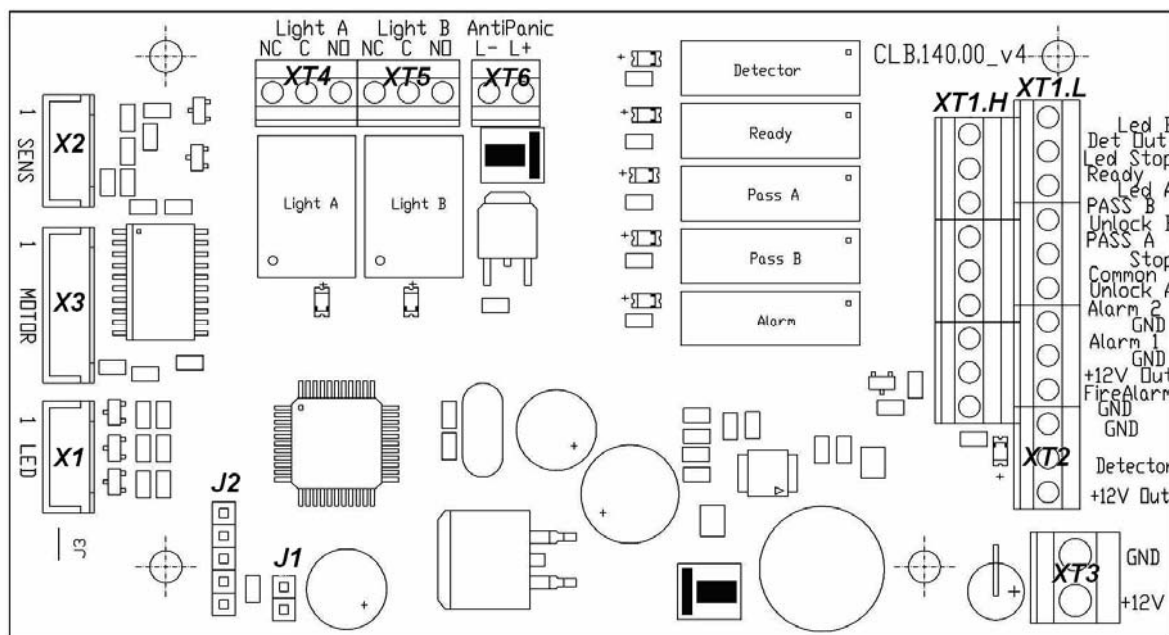
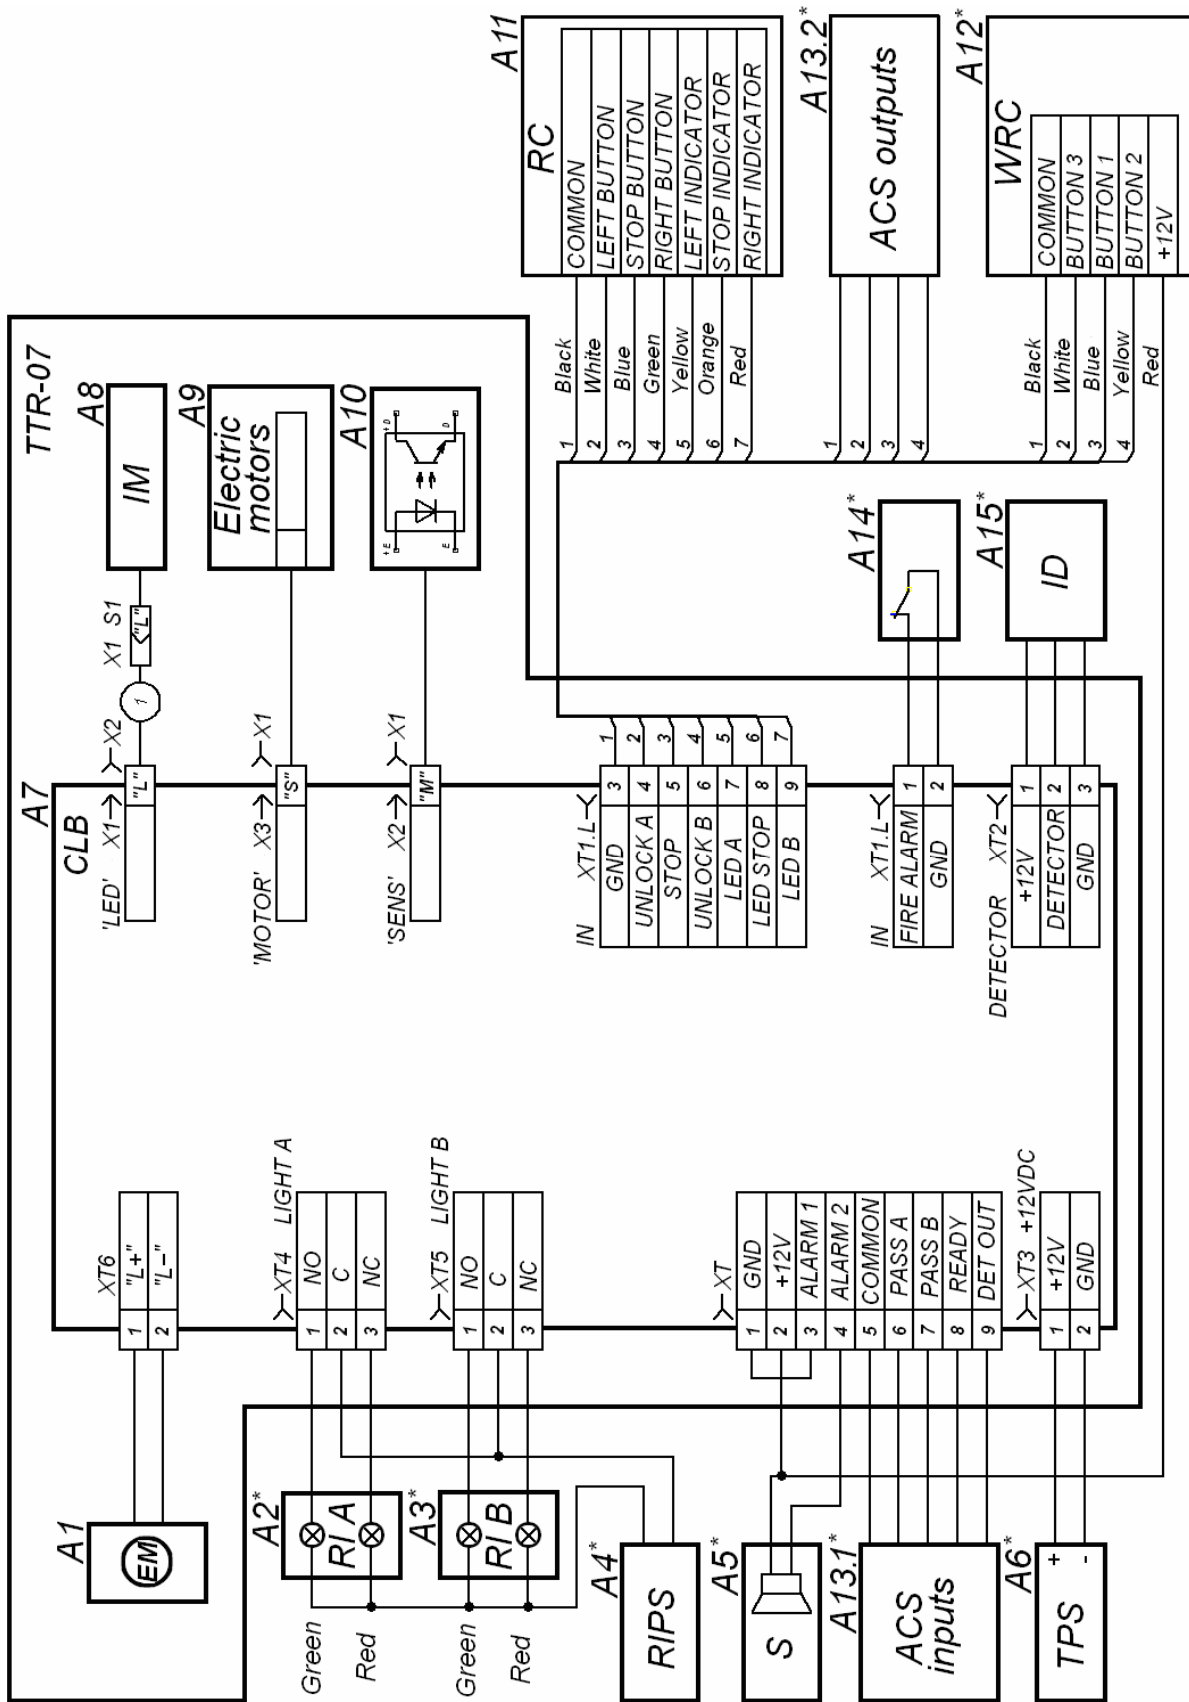
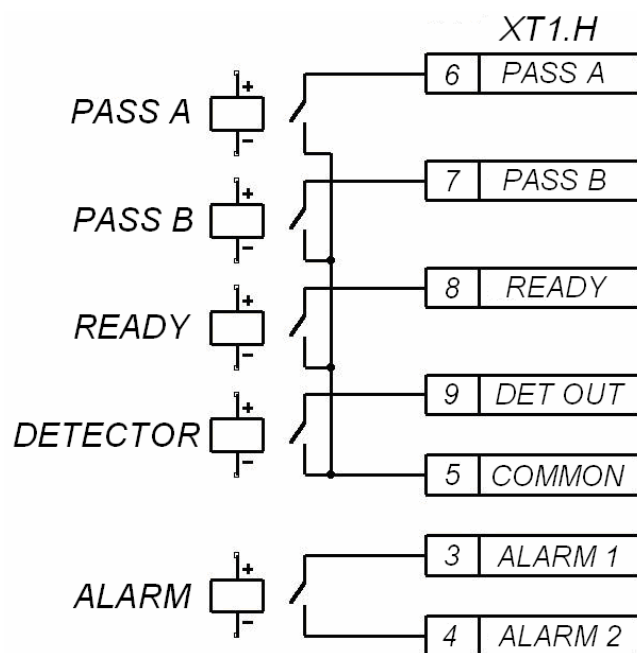

Fig. 2 Control Logic Board (CLB)
Fig. 3 Connection layout
Fig. 6 Output cascades for PASS A, PASS B, Ready, Det Out and Alarm
5.2.3 The RC panel/wireless remote control/ACS controller (11), emergency unblocking device, LED indication display, control mechanism and the turnstile power supply unit (7) are connected to the CLB with the cables in accordance with the connection layout (see Fig.3).
5.2.4 The RC panel is designed as a small desktop device with a shockproof ABS plastic case and is intended for setting and indicating operating modes when the turnstile is operated manually. The RC panel is connected to the CLB with a multicore cable (12) via the “XT1.L” connector block (See Fig. 2 and Fig. 3).
If the turnstile orientation relatively to the operator’s terminal is not standard (e.g. the terminal is placed at the backside of the turnstile housing), the RC panel orientation towards the turnstile can be changed by exchanging places of the RC wires to the contacts “Unlock A” and “Unlock B” as well as contacts “Led A” and “Led B” accordingly (see Fig. 2 and Fig. 3).
5.2.5 The CLB (Fig. 2) includes:
- XT1.L (In) connector block to connect the RC panel /the wireless remote control/ACS controller inputs (11) as well as an emergency unblocking device (9);
5.3.2 Connection of the devices stated in Clause 5.3.1 is made with the cable (5) to the corresponding connector blocks *XT1.L* и *XT1.H* of the CLB in accordance with the connection layout (Fig. 2 and Fig. 3).
5.3.7 Pin assignments of the CLB connector blocks are given in Fig. 2 and on a label located on the inner surface of turnstile cover (2) with LED indication display (same as Fig. 2).
5.4.3 The relays *PASS A* (contacts *PASS A* and *Common*), *PASS B* (contacts *PASS B* and *Common*), *Ready* (contacts *Ready* and *Common*), *Detector* (contacts *Det Out* and *Common*) and *Alarm* (contacts *Alarm 1* and *Alarm 2*) have normally open contacts. The “*Common*” contact, at that, is not connected to the CLB power supply negative terminal. In the initial (inactive) state, when the power is on, the relay contacts “*PASS A*”, “*PASS B*”, “*Ready*” and “*Detector*” are closed (voltage is supplied to the relay coil) and the “*Alarm*” relay contacts are broken (voltage is not supplied to the relay coil). The CLB relay operation/release is indicated by lighting up/going down of the red test indicators located near the corresponding relays (Fig. 2). The output cascades for *PASS A*, *PASS B*, *Ready*, *Det Out* and *Alarm* are the contacts with the following signal characteristics (Fig 6):
5.5.2 The control mode is set by the jumper on the J1 connector (the J1 connector location is shown on Fig. 2 and on a label located on the inner surface of turnstile cover (2)): the jumper is fixed — the pulse control mode, the jumper is not fixed — the potential control mode. The jumper is fixed at the factory before the delivery.
- emergency unblocking device (9);
5.9.2 The intrusion detector is connected to the “XT2” connector block, and the siren is connected to the “XT1.H” connector block of the CLB according to the connection layout (Fig. 2 and Fig. 3). There should be normally closed contacts on the intrusion detector.
5.9.4 The emergency unblocking device is connected to the “XT1.L” connector block of the CLB in accordance with the connection layout (Fig. 2 and Fig. 3). If the “Fire Alarm” input is not used, it is necessary to set a jumper between the contacts “Fire Alarm” and “GND”. This jumper is preset at the factory.